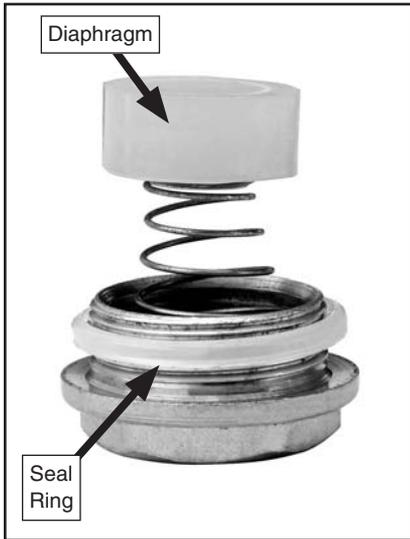

Figure 20. Check valve assembly.
3. Inspect the seal ring and diaphragm (**Figure 20**) for damage and dirt.